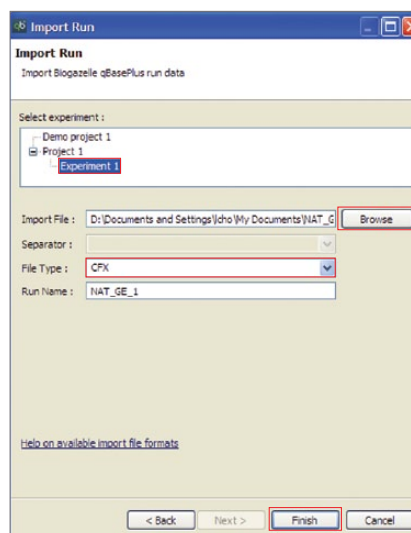

Fig. 10. The Import Run window.
9. The Import Run window opens (Figure 10).